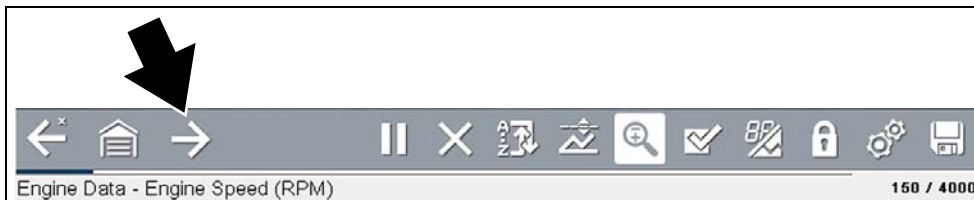

Figure 6-10
- To display the next data list, select the **Right Arrow** icon (Figure 6-10).